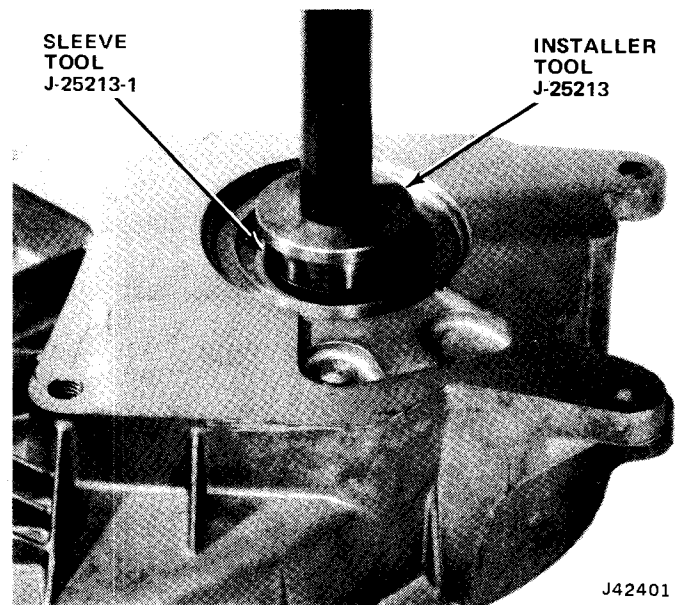

Fig. 8-47 Installing Drive Sprocket Front and Rear Oil Seals
(1) Remove seals using J-type puller or a smooth-ended pry bar. Do not damage case bore.
(2) Install rear seal (lip to rear) using Seal Installer J-25213 and Sleeve J-25213-1 as driver. Install seal until driver shoulder touches case front surface.
(3) Remove Sleeve J-25213-1. Install front seal with lip to front until driver shoulder touches case front surface (fig. 8-47).